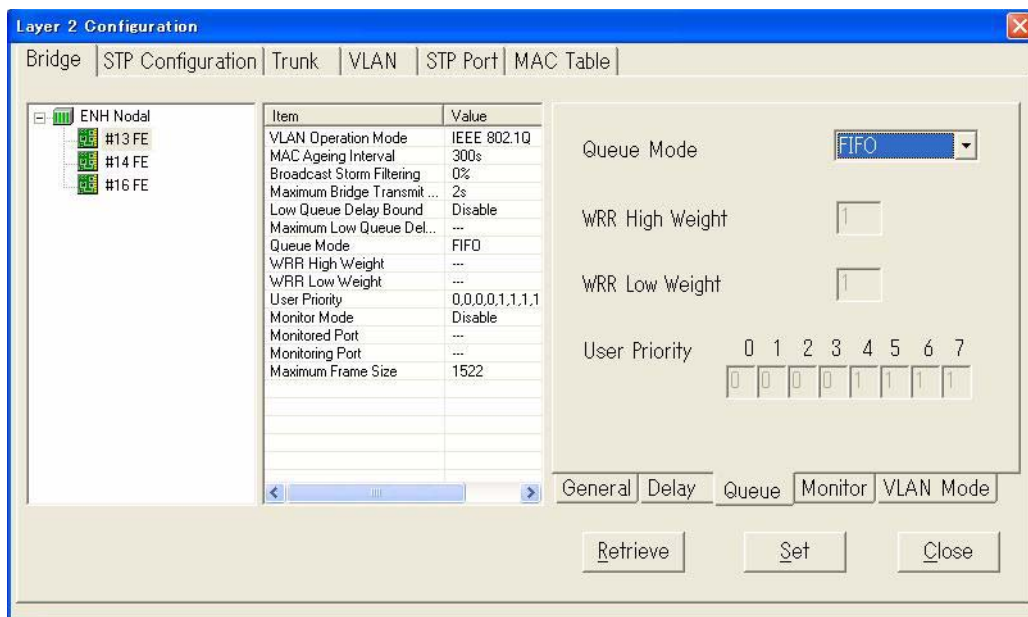

Fig. 4-4-45 FIFO Selection (FE Card)
- i When **FIFO** is selected, the order of queue ingress and egress is FIFO (first in first out), namely ignoring queue priority. The window is shown in **Fig. 4-4-45**.